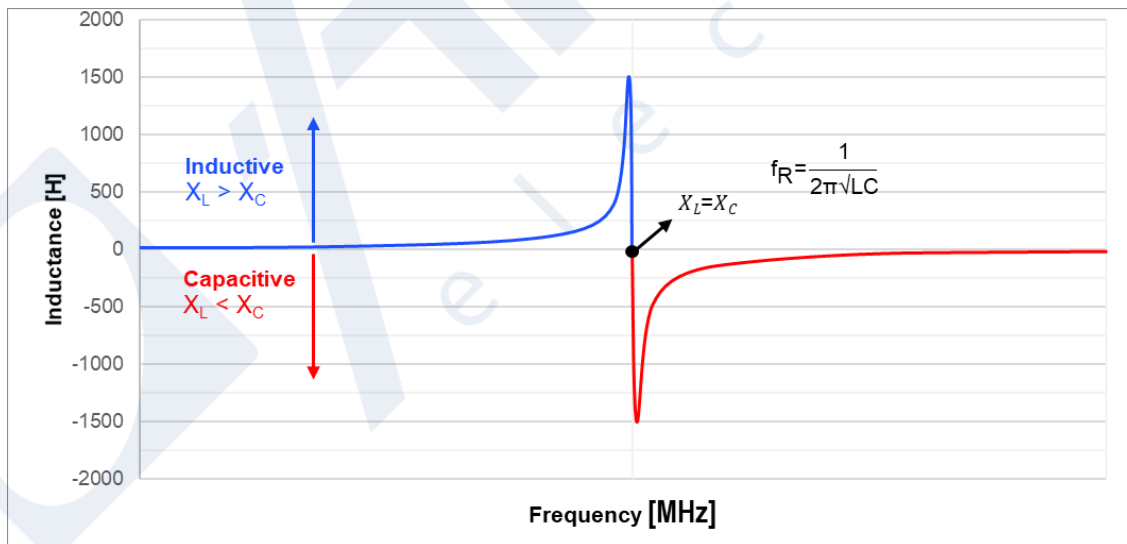

Figure 9: Inductance vs. Frequency
An inductor has inductive characteristics (shown as the blue curve Figure 9) up to the resonant frequency (f_R), as an increasing frequency corresponds to a higher impedance. At the resonant frequency, the negative capacitive reactance (X_C) is equal to the positive inductive reactance (X_L), estimated by the condition in Equation (3):
Beyond the resonant frequency (shown as the red curve Figure 9), the inductor displays capacitive characteristics that correspond to a decreasing impedance. After this point, the inductor does not function as expected.
Figure 9 shows the relationship between inductance and frequency.